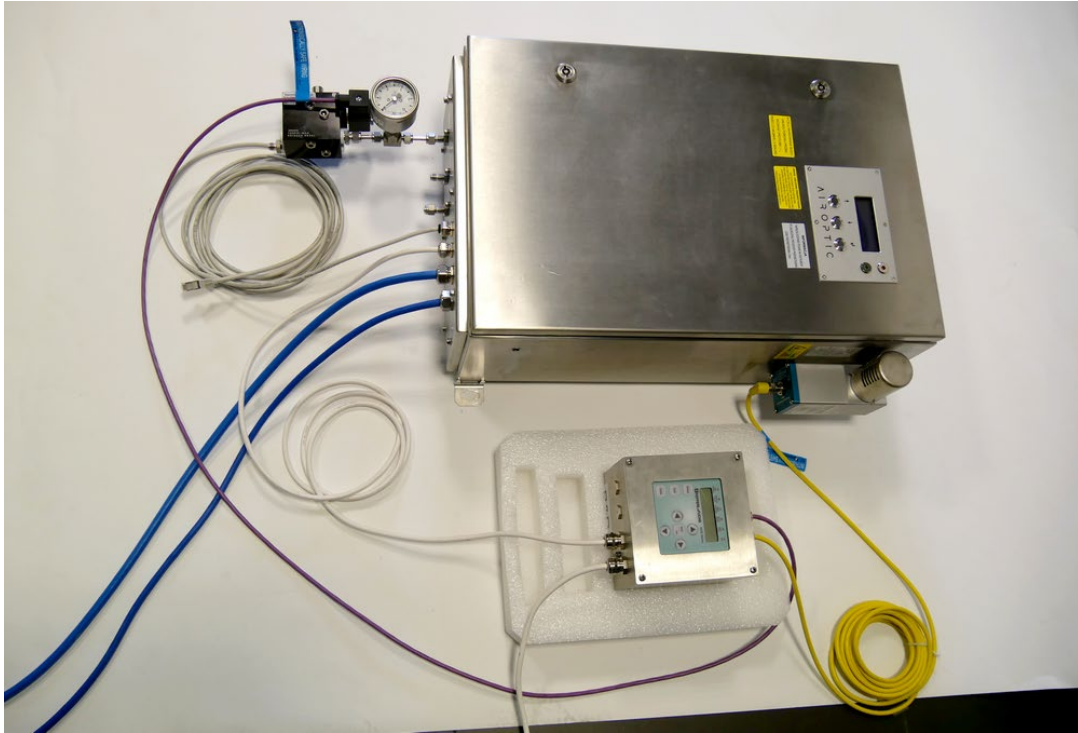

Figure 152. Purge system installed.
10. Installation is completed, the system should look like in **Figure 152**.